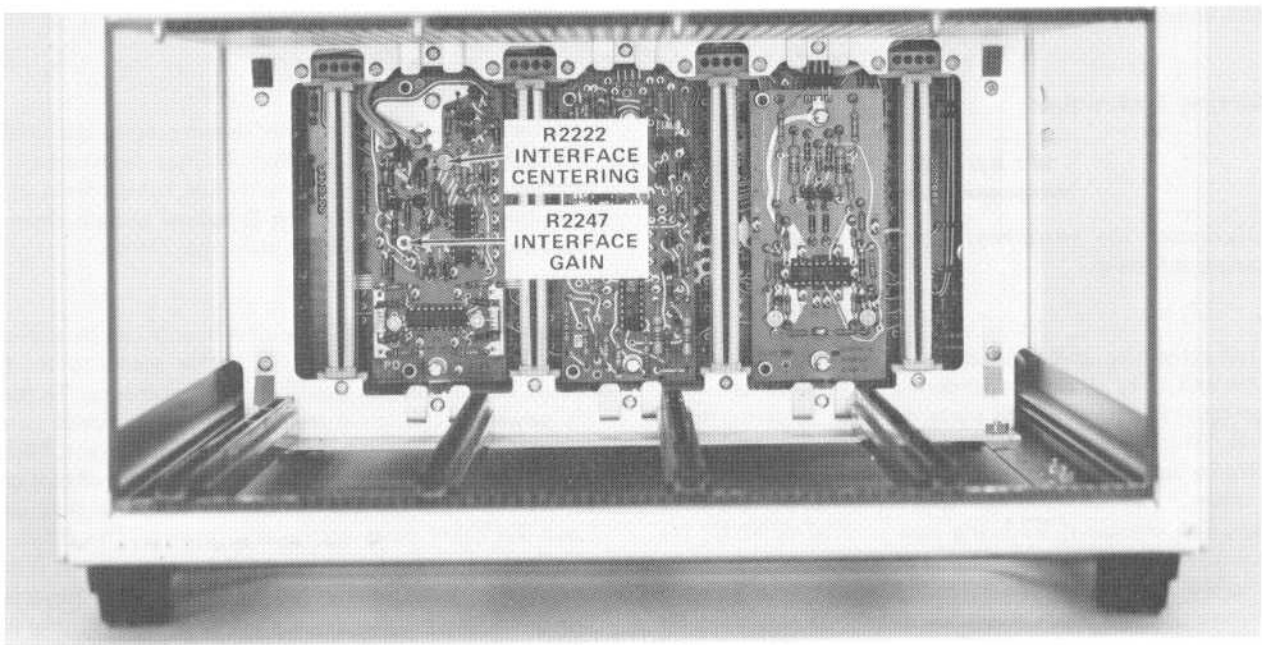

Fig. 3-4. Location of adjustments on A22, Vertical Interface board.
h. ADJUST—Interface Centering adjustment R2222 (see Fig. 3-4) for a display DC level within 0.2 division (10 millivolts) of the zero-volt reference level in the LEFT and RIGHT positions of the VERTICAL MODE switch.
l. ADJUST—Interface Gain adjustment R2247 (see Fig. 3-4) for a test-oscilloscope display of nine traces with six divisions  $\pm 0.9$  division deflection between the second and eighth traces (300 millivolts within 45 millivolts).